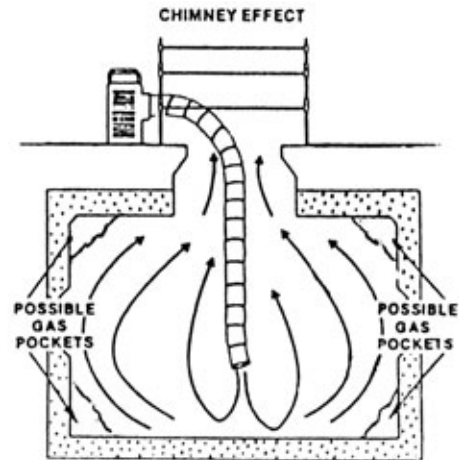
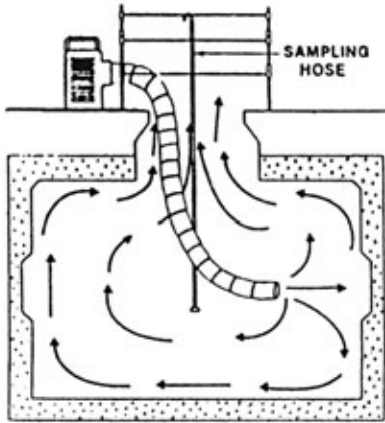

FIGURE 9
FIGURE 10
2) Purge the Blower duct at street level for at least one minute before placing it into the manhole or confined work area. Determine that the Blower intake is away from carbon monoxide fumes or any other source of harmful fumes or gases. If ventilating street level air into a confined work space, a duct can be installed on the Blower inlet and suspended above the street as far as possible and/or practical. This procedure can minimize the amount of Carbon Monoxide contamination that is introduced into the confined work space. The most effective positioning of the outlet end of the Blower duct is on a cable rack or another supporting structure midway up a side wall, with the ventilating air being directed at an end wall. FIGURE 9 and FIGURE 10. This arrangement will provide for more even air distribution and will more effectively eliminate air spaces in corners where harmful gases may accumulate. Whenever possible, it is recommended that the Blower be utilized on a continuous duty cycle basis for both suction and exhaust ventilation applications.